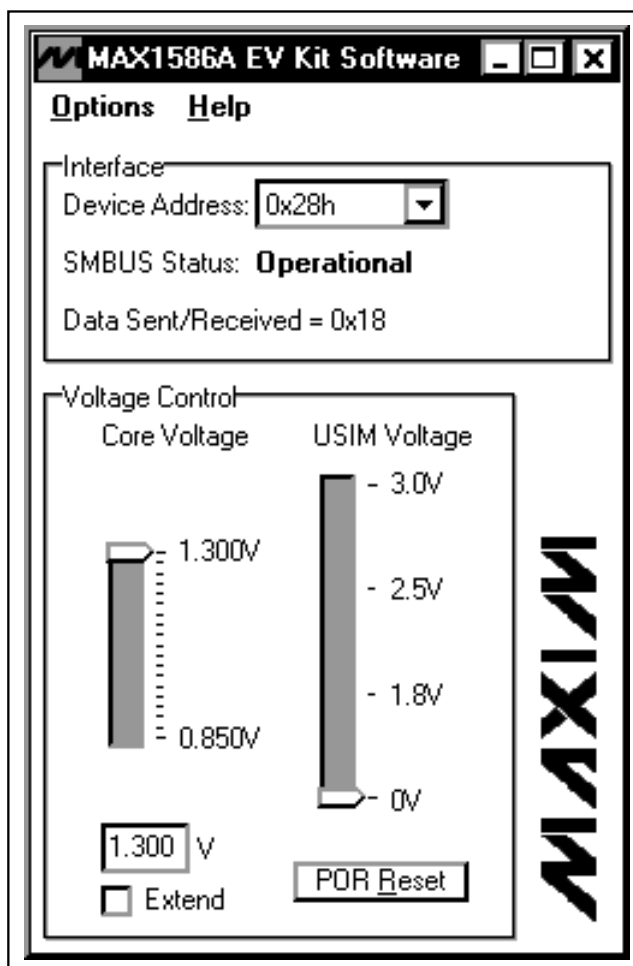

Figure 1. MAX1586A EV Kit Software Main Window
- 13) Start the MAX1586A EV kit software by opening its icon in the **Start** menu. The GUI main window appears as shown in Figure 1.
The user interface (Figure 1) is easy to operate; use the mouse or press the Tab key to navigate with the arrow keys. Each button corresponds to bits in the command and configuration bytes. By clicking on them, the correct SMBus write operation is generated to update the internal registers of the MAX1586A. The **Interface** box